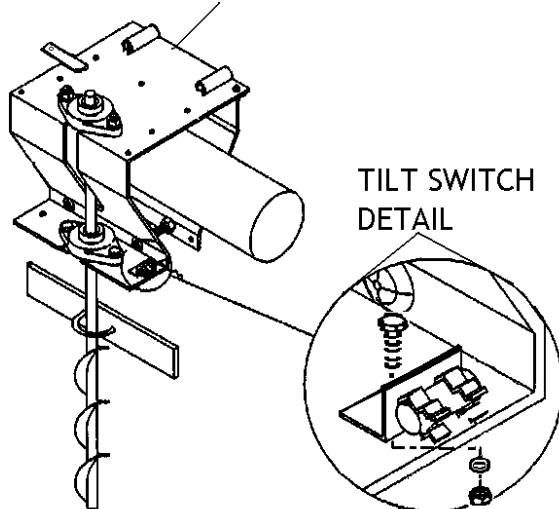

Fig. 17 – Tilt switch placement on satellite & stationary carriages
- 24 On satellite and stationary outside carriages (if present), bolt tilt switches to bottom auger side of carriages near down auger slots (facing in). Use 5/16" x 1" bolt pointing down through plate and 5/16" lock washer and nut. See Fig. 17.